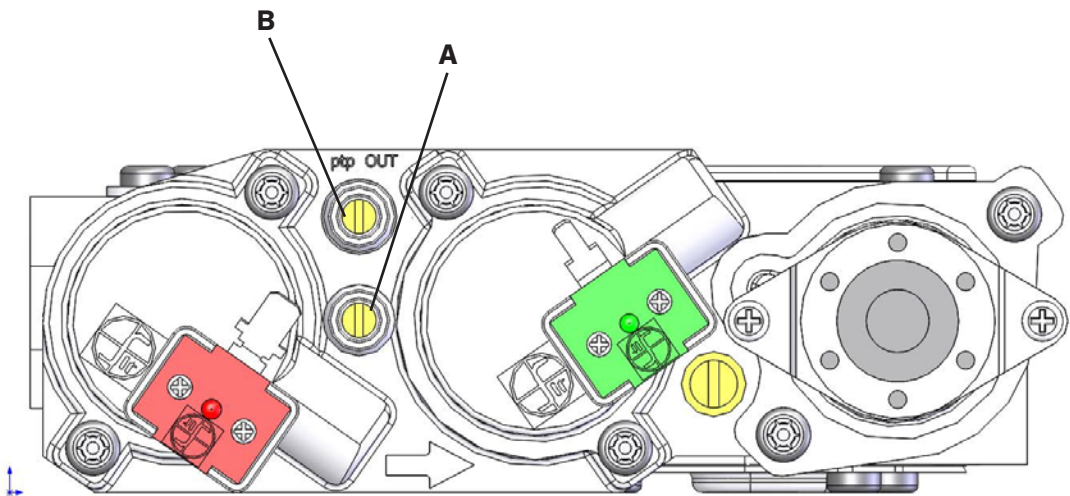

Figure 12.1, Pressure Check Taps
1. Loosen the inlet (IN) pressure tap by turning screw counter-clockwise. See (A) in Figure 12.1.
5. Disconnect hose and tighten the inlet (IN) pressure tap by turning screw clockwise. Screw should be snug. Do not over tighten.
6. Relight pilot and burner. Then reattach manometer to the inlet pressure tap (A) to verify the tap is completely sealed. Manometer should read no pressure.
2. Loosen manifold (OUT) pressure tap by turning screw counter-clockwise. See (B) in Figure 12.1.
7. Attach the manometer to the manifold pressure tap (B) to verify it is completely sealed. The manometer should read no pressure when pilot and burner are on.